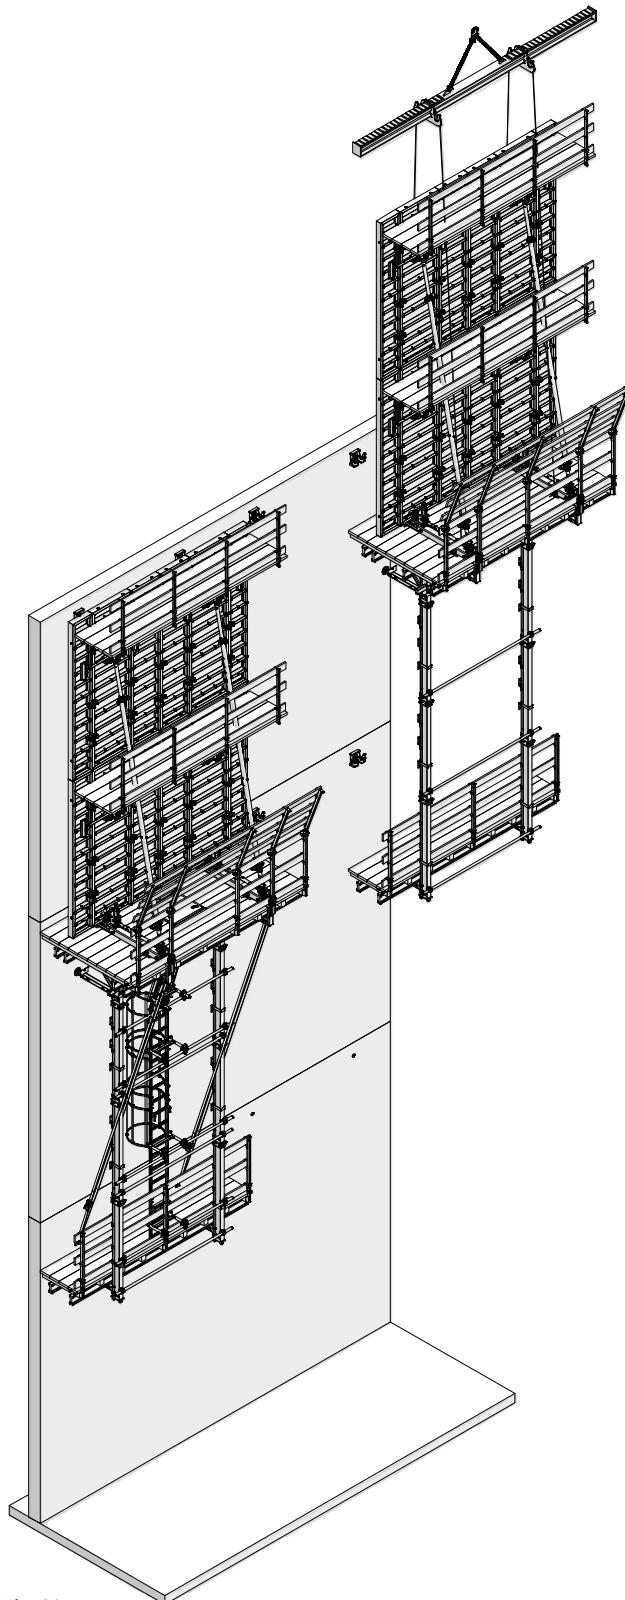

Fig. 39.1
1. Attach the crane slings at the crane eyes of the KLK bracket (Fig. 39.1). We recommend using the transport spreader KLK (see p. KLK-35). The crane ropes have to be as long as required to have the transport spreader located in the center of gravity of the KLK unit and to have 2 strings in front of the formwork and 2 behind it.